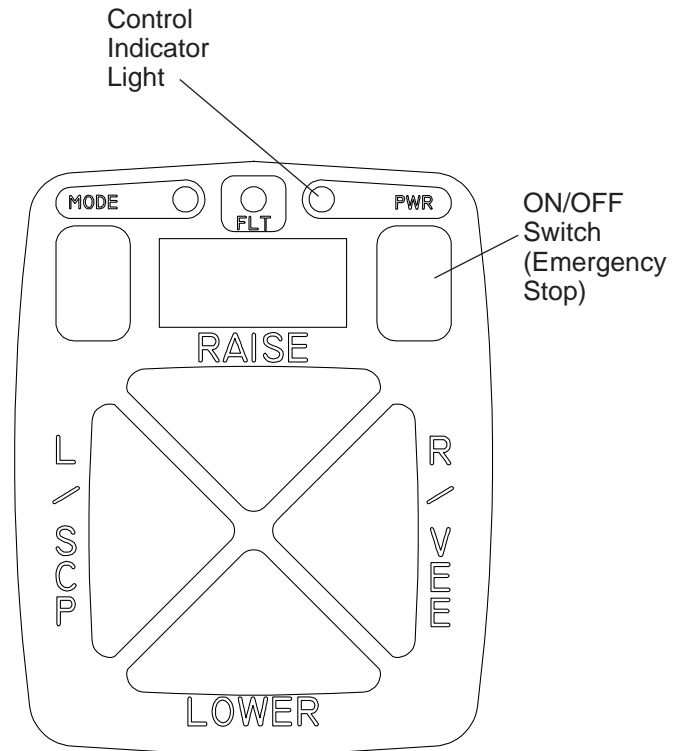

Figure 10
2. Press the ON/OFF switch on the control. The control indicator light will glow red indicating the control is turned on. The control indicator light will glow red whenever the control ON/OFF switch and the vehicle's ignition switch are both turned ON. The ON/OFF switch operates as emergency stop when required. **(See Figure 10.)**